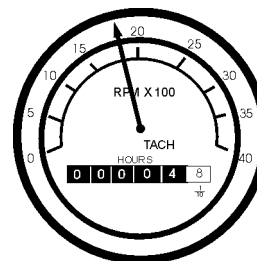

Figure 27. Engine Tachometer
15. The tachometer (Figure 27) will indicate the speed of the engine when the generator is operating. Under normal operating conditions this speed is approximately 1800 RPM's.